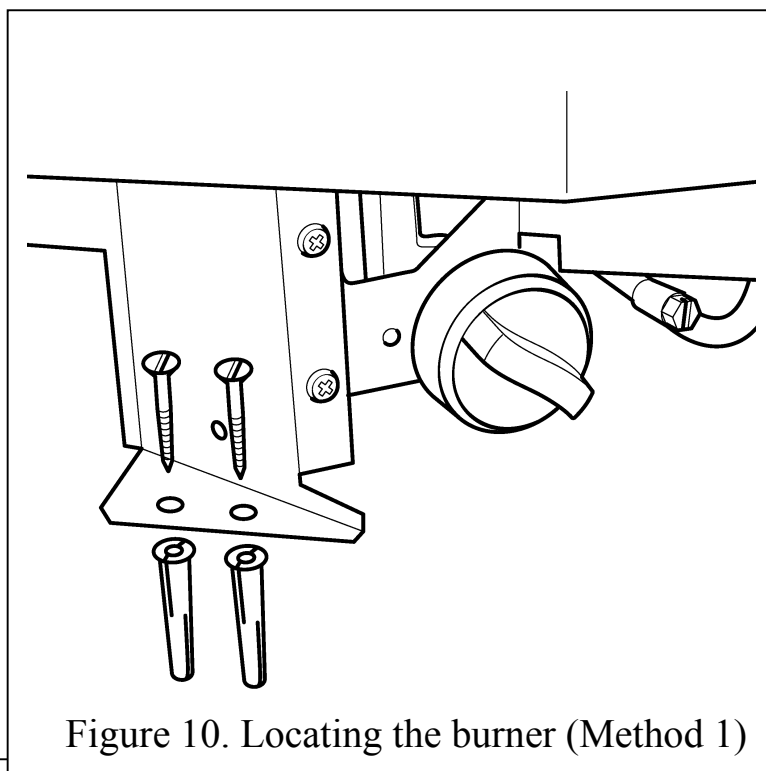

Figure 10. Locating the burner (Method 1)
- Mark on the hearth the position of the fixing holes at the bottom front of the front leg (See figure 10).
- Replace the burner assembly and fix in position using the wood screws provided (See figure 10)